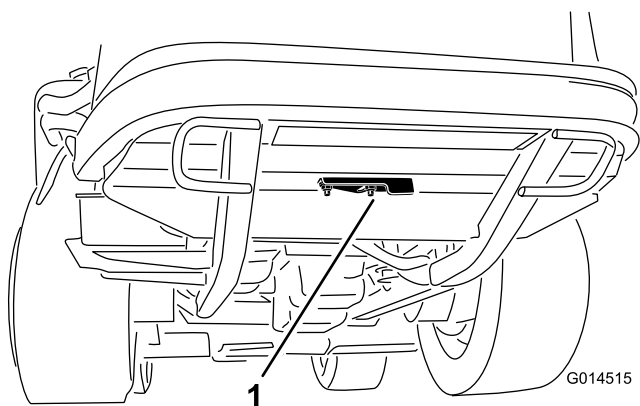

Figure 44
2. Loosen the flange nut securing the clean-out cover to the underside of the rear frame (Figure 44). Rotate the cover to the side to expose the clean-out hole in the frame.